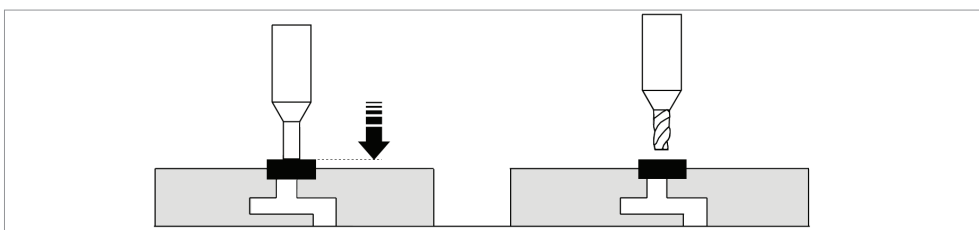

Fig. 12
- 1) Loosen the upper ring nut (O).
- 3) Turn the bigger middle ring nut (N) clockwise a few turns to lower the tracer.
- 4) With the (I) lever lower the vertical carriage until the tracer point touches the top of the key in the left side clamp (Fig. 12).